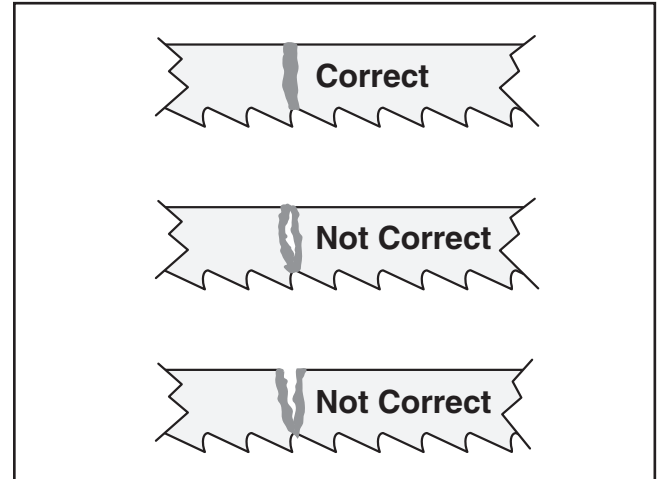

Figure 17. Blade welding joint examples.
16. Inspect the weld. The welded joint should be even across the width of the blade with no gaps (see **Figure 17**).